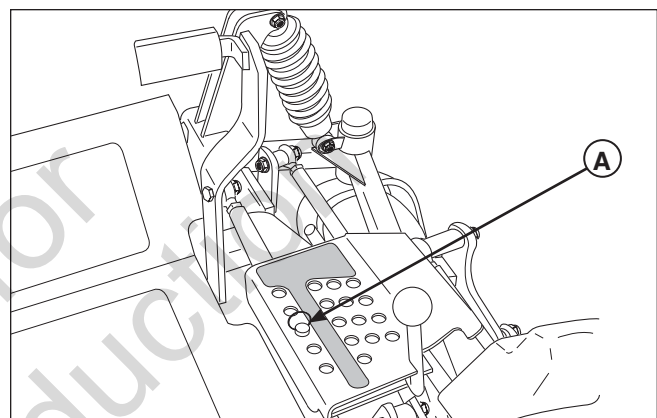

Figure 40. Deck Lift Pedal
5. Lock the deck lift pedal in the 6" (15,2cm) position. Remove the cutting height adjustment pin (A, Figure 40) and lower the mower deck.